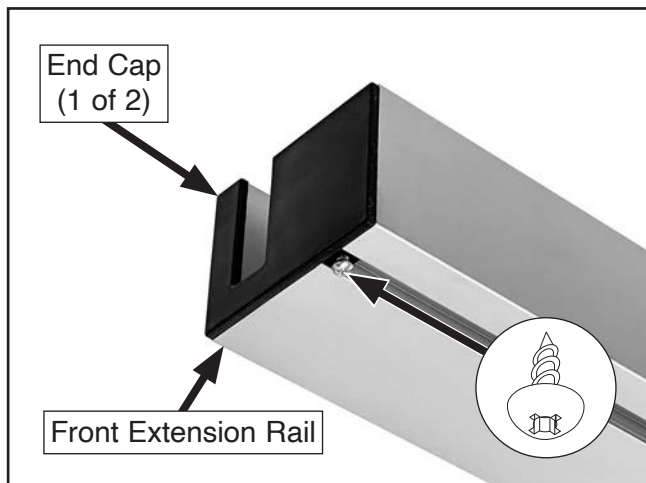

Figure 5. Location of front extension rail left end cap.
6. Remove rear fence rail. Retain (8) cap screws and (4) hex nuts for use in **Step 19**.
7. Loosen tap screws securing end caps to front extension rail (see **Figure 5**), then remove end caps.